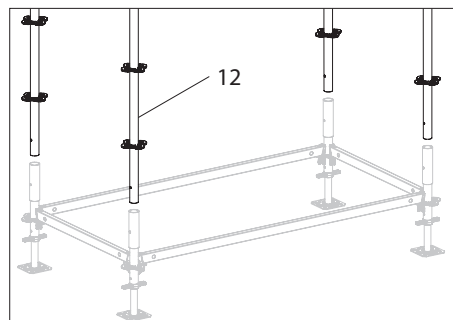

Fig. A2.03a
1. Insert Standard UVR-2 (12a/12b) into Base Standard UVB 25 (11) or onto Standard UVR-2. (Fig. A2.03a)